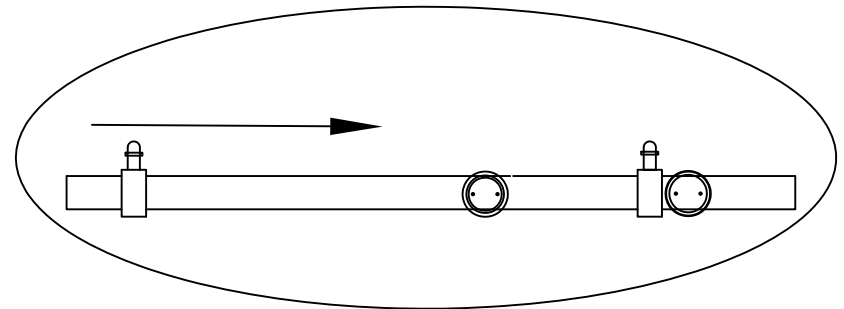

Fig. 3
3. Slide Door Stopper (1) onto end of Top Rail (2). The bumpers on Door Stopper (1) should be positioned on the top of Top Rail (2) for final installation. Note: One door stopper comes pre-assembled on top rail between fixed glass bolt assembly. See Fig.3 for details.